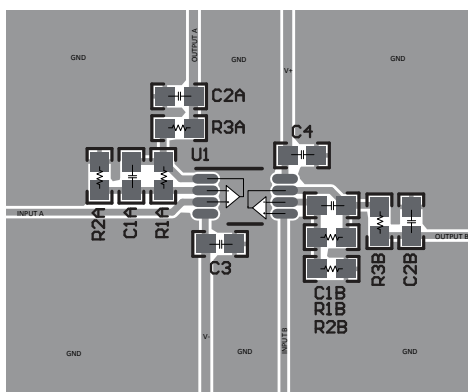

図 7-4. Example Layout for VSSOP-8 (DGK) Package
- Place the external components as close to the device as possible. As illustrated in Figure 7-4, keeping RF and RG close to the inverting input minimizes parasitic capacitance.